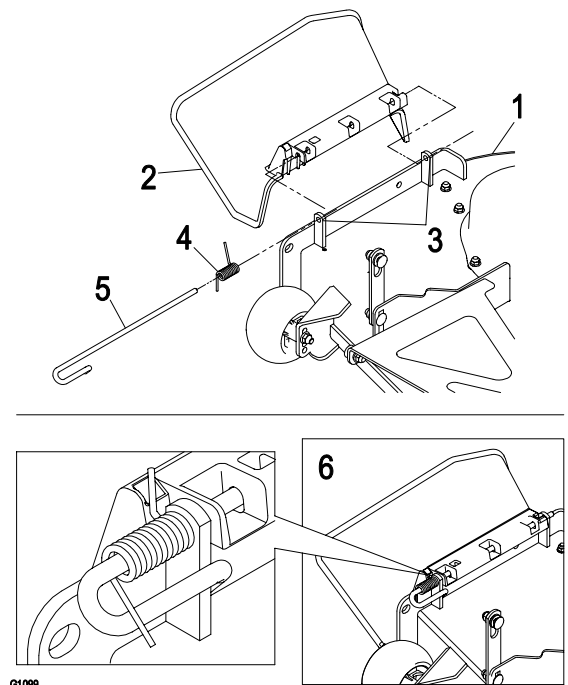

Figure 6
1. Install discharge deflector (Figure 6).
3. Make sure that the spring and rod are installed so that the rod is retained from sliding out by the front bracket and the spring holds the discharge deflector in the down position. Refer to (Figure 6) for proper orientation.